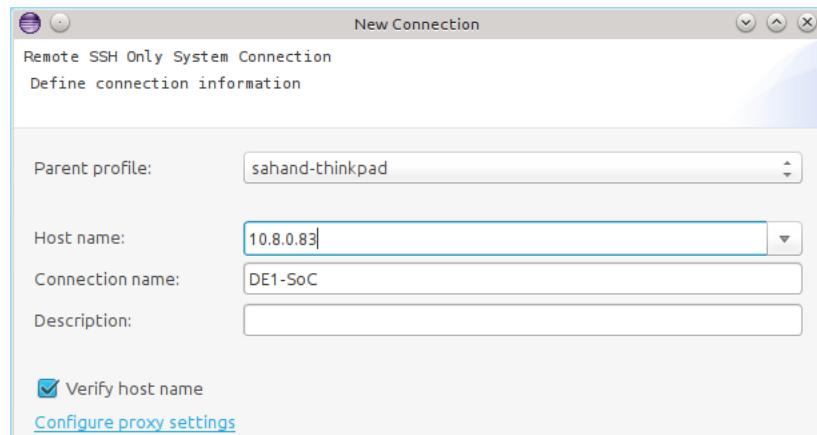

Figure 13-11. New SSH Only Connection
66. Enter “DE1-SoC” as the “Connection name”. You should have something similar to Figure 13-11.